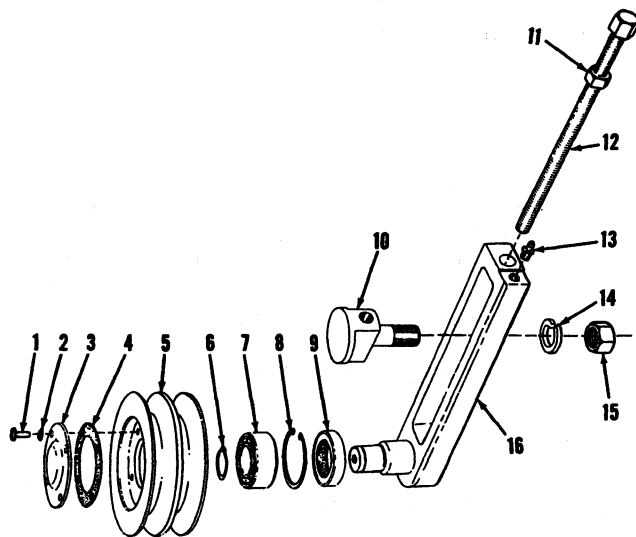

Fig. 9—Fan Belt Tightener Details
1. FAN BELT TIGHTENER REMOVAL, DISASSEMBLY, AND INSPECTION (TRACK-TYPE TRACTORS) Fig. 9
- b. Remove nut (15) and lockwasher (14) from slide clamping bolt (10) and remove fan belt tightener from fan mounting bracket.
- c. Remove pulley cover (3) and gasket (4).
- d. Remove front snap ring (6).
- e. Place tightener assembly in a press, pulley side up, and press fan belt tightener slide (16) from pulley (5).